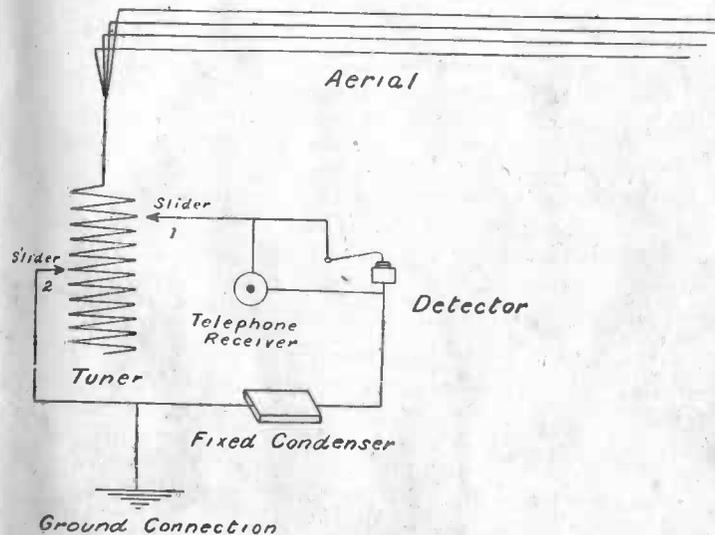

FIG. 26.
**Connecting the Instruments.**—The diagram in Figure 26 is the "hook-up" or connection diagram for the set.